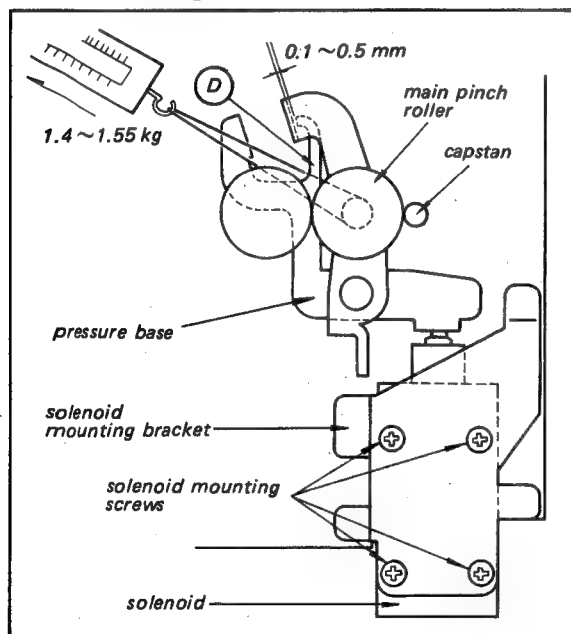

Fig. 7-17 Pinch roller adjustment
1. Make a loop in a piece of string and attach the spring scale around the base of the pinch roller shaft. See. Fig. 7-17. Use 4 kg spring scale (SONY Part No. 9-911-042-01).
3. Pull the scale in the direction indicated by the arrow in Fig. 7-17. Check the reading when the pinch roller leaves the capstan. It should be in between 1.4 kg and 1.55 kg. If not, proceed to Step 4.
4. Loosen four screws in Fig. 7-17. Move the solenoid downwards when the reading is too low. Tighten the screws.